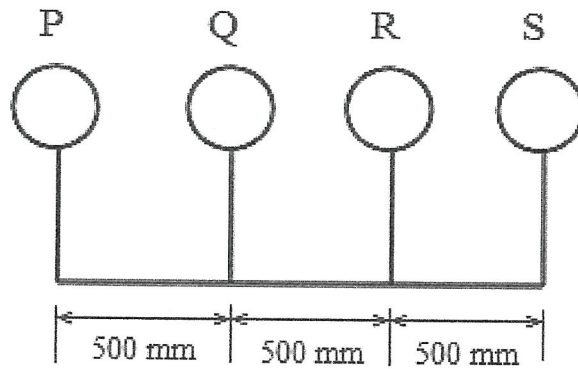
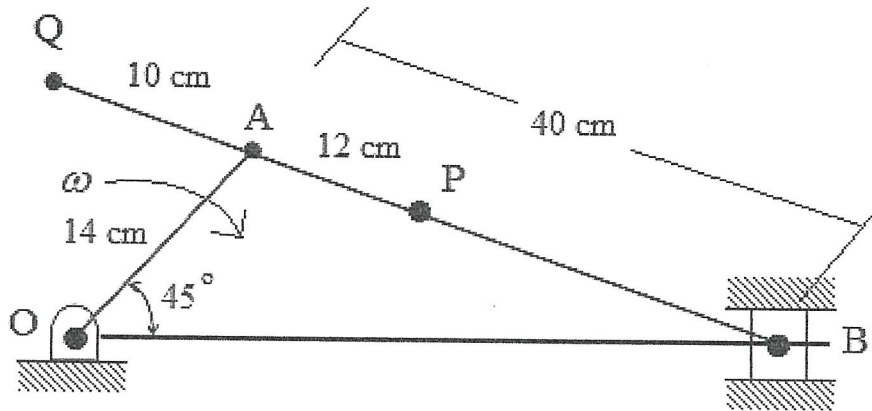
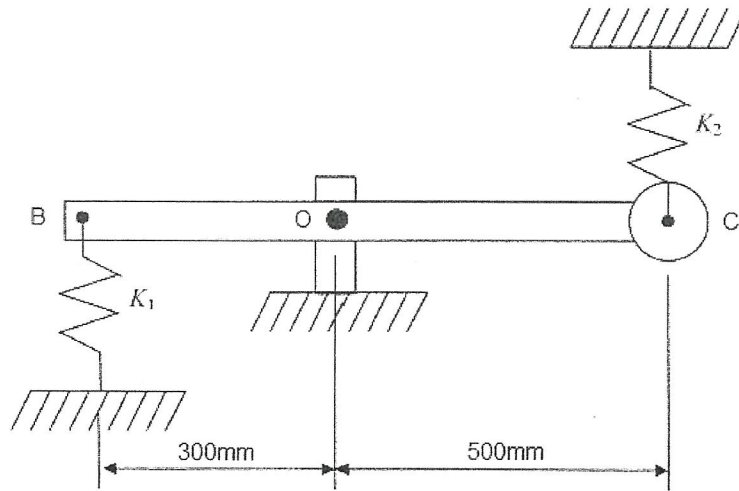

Figure Q3(b)
Figure Q5(b)
Figure Q6(b)
- (b) **Figure Q3(b)** shows a shaft is rotating with constant speed carries four masses P, Q, R, S with radius of each masses from shaft axes is 8 cm, 12 cm, 15cm and 12 cm. Each mass is arranged with the same ratio of distance on the shaft. Given mass P = 12 kg and S = 5 kg. Angle between mass P and S is 90°. Determine the value of masses Q and R and its direction relative to mass P for system to be completely balance. (16 marks)
- Q4** (a) List **four (4)** types of friction. (4 marks)
- (b) **Figure Q5(b)** shows in a Slider Crank mechanism, the link OA rotates clockwise about 'O' at 200 rpm. Given the angle AOB = 45°, the length of link OA = 14 cm and link AB = 40 cm. By drawing the velocity diagram, calculate;
- Q6** (a) Damping is a mechanism by which vibration energy is gradually converted into heat or sound. Explain **three (3)** models of damping system. (6 marks)
- (b) **Figure Q6(b)** shows lever BOC has a mass of 5 kg and gyration radius is 200 mm on center of gravity at the pivot point O. The lever brings 2 kg mass at C.  $K_1$  and  $K_2$  have a spring constant of the same strength of 5 kN/m. Calculate the natural frequency of the system. (Neglect the pendulum effect) (14 marks)